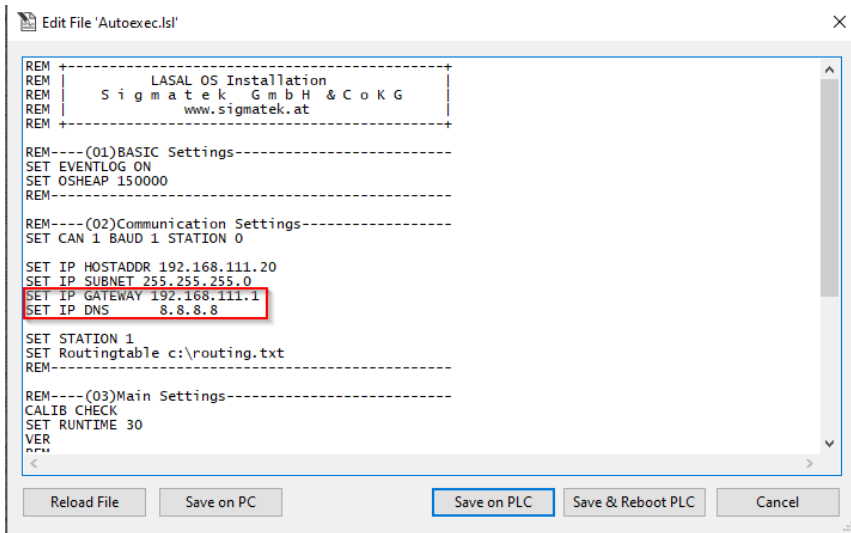

Figure 4.14 Editing the IP configuration.
3. Apply settings valid for the current LAN (Figure 4.14):